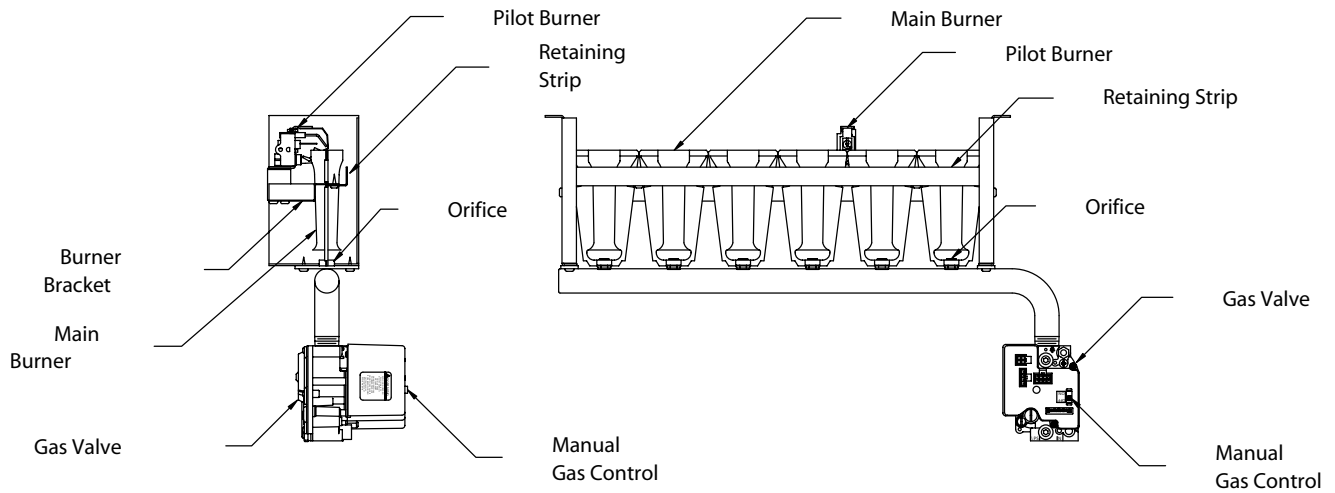

Figure 1
**REPLACING THE ORIFICES (SEE FIGURE 1)**